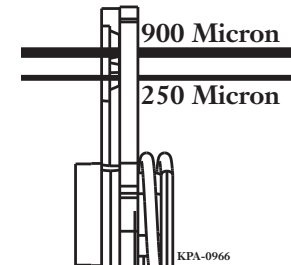

Figure 24 — Strip 900 Micron Buffer
Step 3: To expose bare glass, remove the 40 mm section of buffer and coating in two steps using the Dual-Hole Stripping Tool (Figure 24).